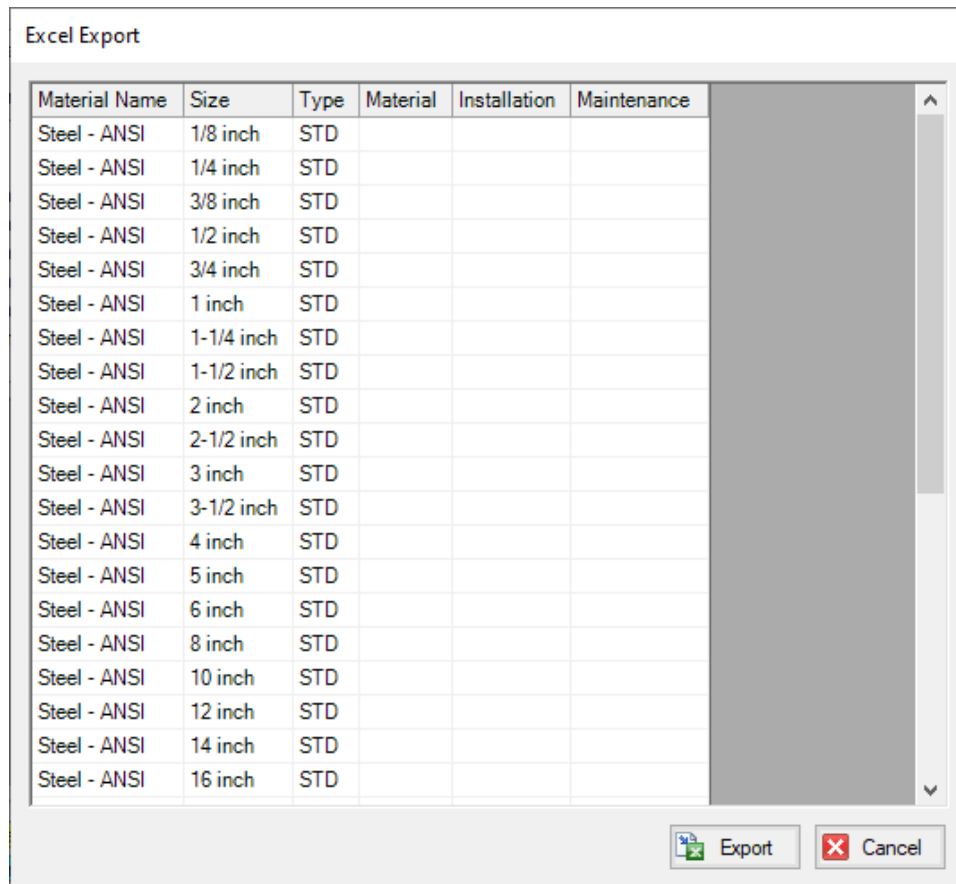

Figure 10: Excel Export window showing pipe items that will be included in the Excel sheet
1. Make sure that the STD pipe material type is highlighted in the list, then click **Export to Excel** on the right side of the window. The Excel Export window should be shown as in Figure 10, with all Steel-ANSI STD pipe sizes displayed.